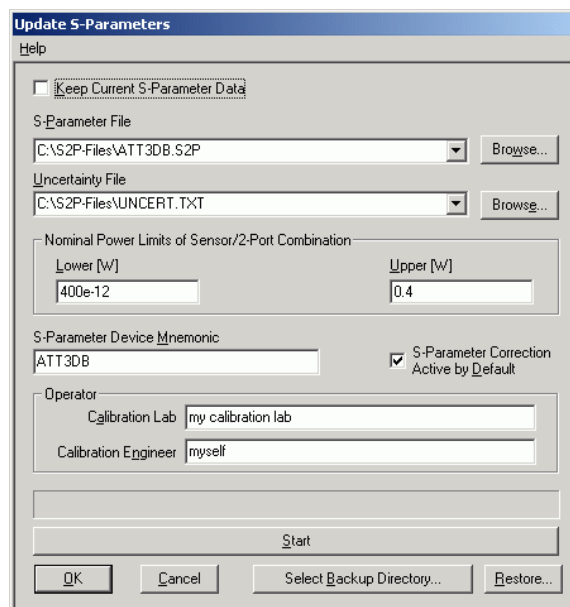

Fig. 3-3 Dialog window for loading an s-parameter table
1. Connect the sensor to the USB port of the PC and start the program module **Update S-Parameters**. The corresponding dialog window is opened (Fig. 3-3).